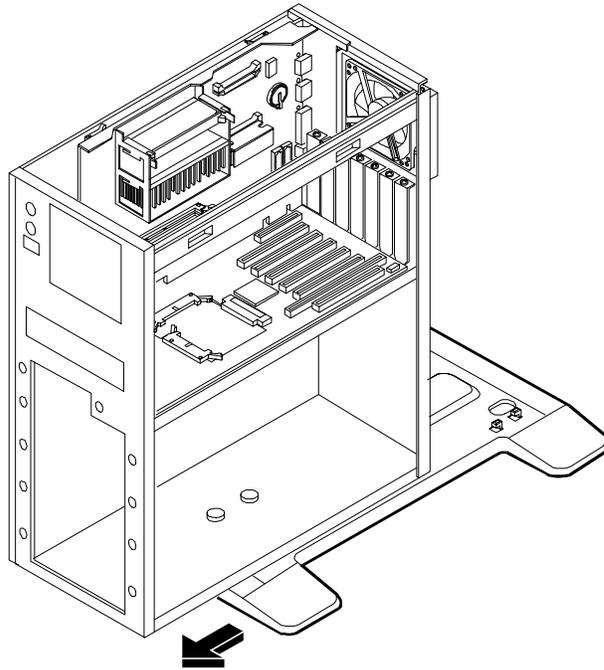

Figure 5-2. Slide the HP NetServer Forward
2. Hold down both plastic buttons, and slide the HP NetServer forward on the pedestal, as shown in Figure 5-2, to disengage the hooks holding the pedestal.